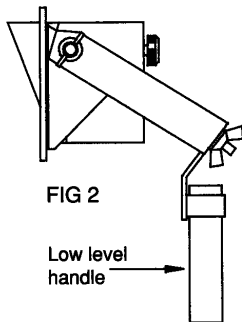

FIG 2
2. If the detector for test cannot be reached by arm extension, connect up extension poles to required length (up to 4.5) Figs. 2 and 3.